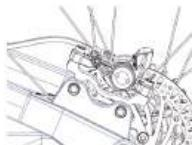

Fig. 2-3 Disc Brake Set Orientation
- ① Install the front/rear disc brake adapter on the bracket screw holes (as shown in Figure 2-3).
- ② Loosen the disc brake caliper body fixing screws so that the disc brake caliper body can be slightly adjusted, and then install the adapter on the frame.